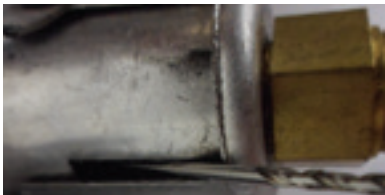

Figure 1
1. Ensure the air shutter is set to the specification. See **Figure 1** and **Tables 1 and 2** on page 7.